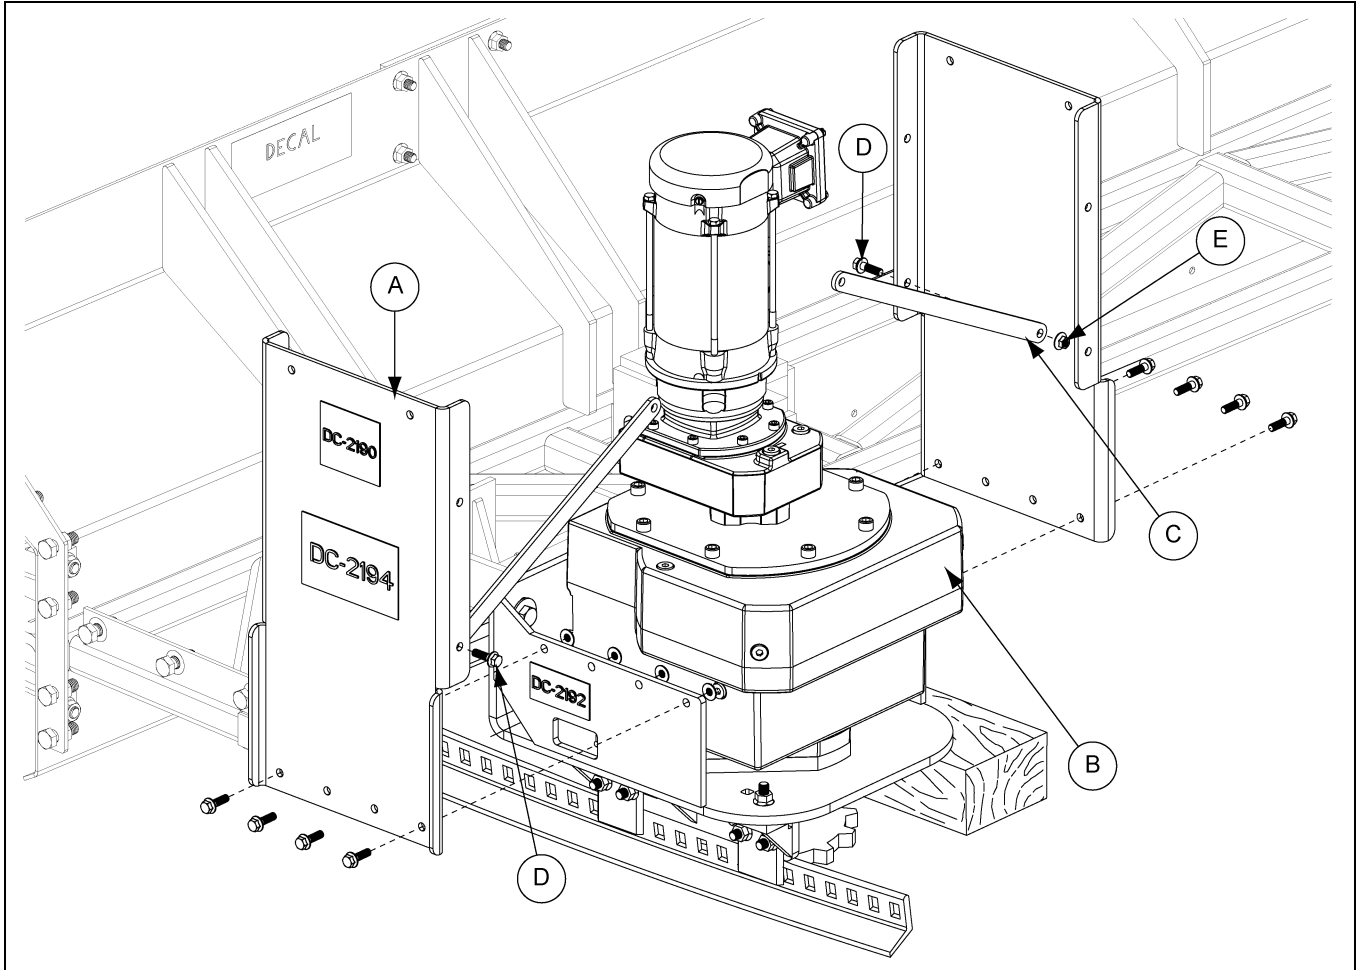

Figure 8I
1. Install the drive motor sides (A) to the gearbox assembly (B) using four (4) bolts (D) and nuts (E) along the bottom edge. (See Figure 8I.)
2. Install the cross brace (C) to the side covers (A) using the bottom hole on the opposite sides with bolts (D) and nuts (E).